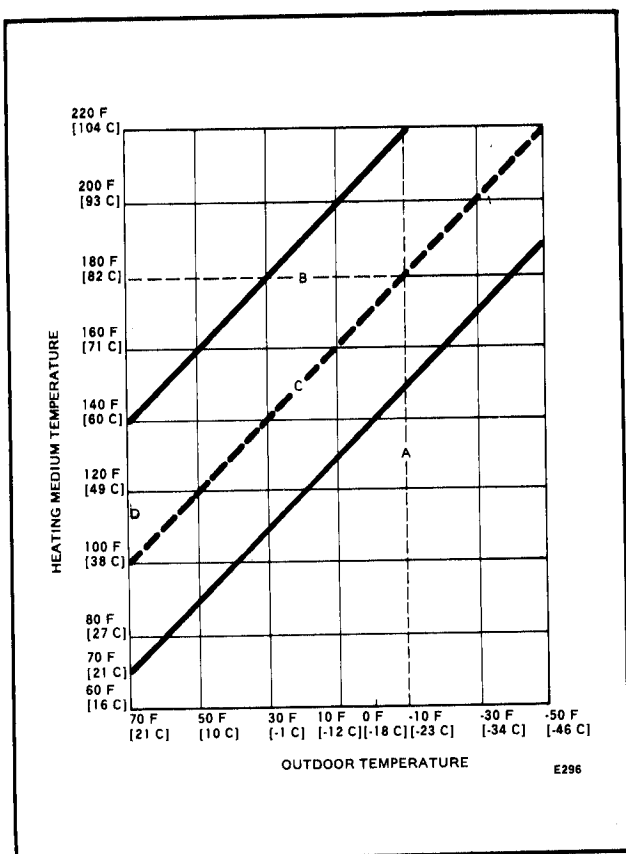

FIG. 3—GRAPH FOR 1:1 RATIO.
1. Find the outdoor design temperature point on the scale at the bottom of the graph and draw a vertical line to the top of the graph (as line A, Fig. 3).
2. Find the design heating medium temperature for the system and draw a horizontal line at that point (as line B, Fig. 3). Lines A and B will cross.